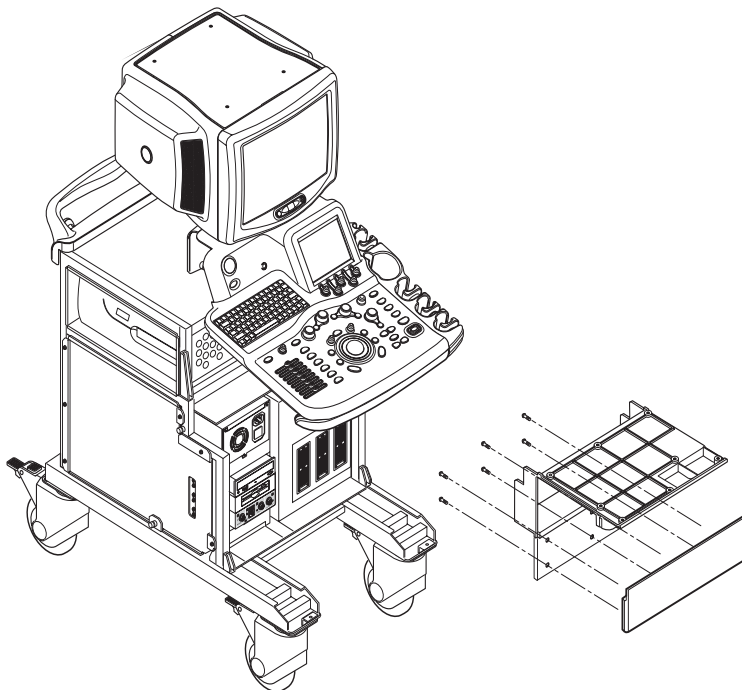

Figure 8-93 Remove the OP Curtain Cover
9.) Remove the OP Curtain Cover. Refer to Figure 8-93 on page 8-47 .